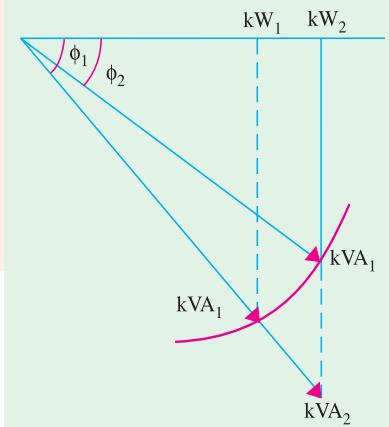

Fig. 50.15
**Solution.** Let  $kVA_1$  be the initial capacity of the plant and  $kVA_2$  its increased capacity with extra or additional plant. As seen from Fig. 50.15.